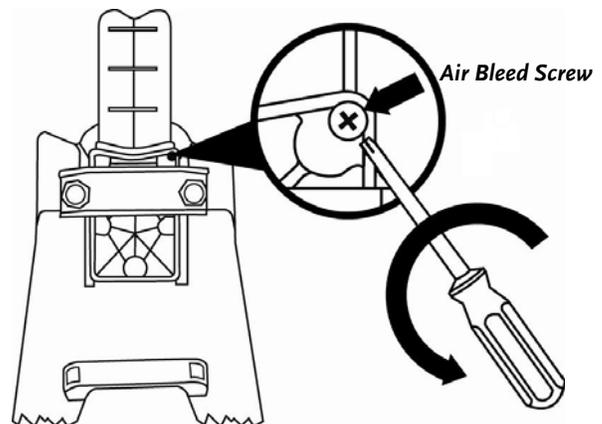

Figure 3
- **IT IS IMPORTANT TO ADJUST THE AIR BLEED SCREW EACH TIME YOU USE THE MACHINE. YOU WILL NEED A STANDARD PHILLIPS SCREWDRIVER TO MAKE THIS ADJUSTMENT (FIGURE 3).**
3. Prior to using the wood splitter, open the Air Bleed Screw by turning it counter-clockwise four (4) times. **Leave the Air Bleed Screw open in this position while using the machine.** When you are finished using the machine, tighten the Air Bleed Screw by turning it clockwise. Do not over tighten and strip the Air Bleed Screw.
5. Open the Air Bleed Screw using a small Phillips screwdriver 4 turns and cycle the Ram back and forth 3 or 4 times to purge any air from the hydraulic system; see **Figure 3** on page 13.
- Open the Air Bleed Screw by turning counter-clockwise 4 times and then retighten by turning clockwise prior to storing the machine; see *Figure 3* on page 13.